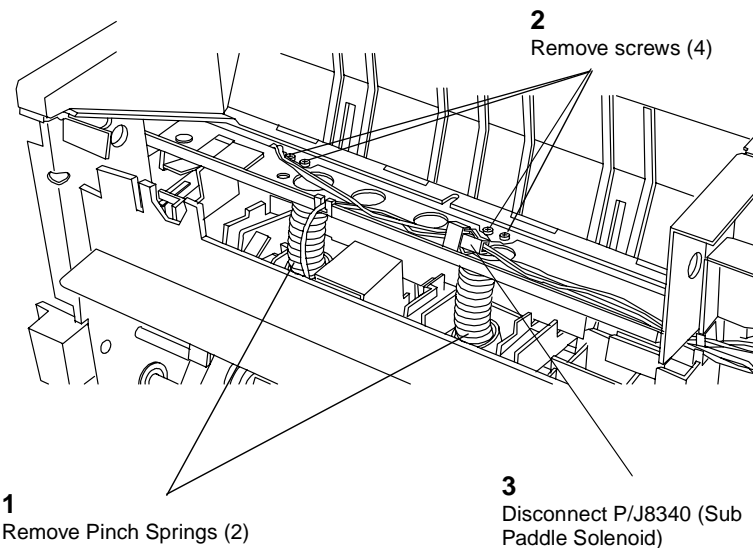

Figure 2 Removing Pinch Springs and screws
6. Remove Pinch Springs and screws from the Eject Pinch Shaft (Figure 2).